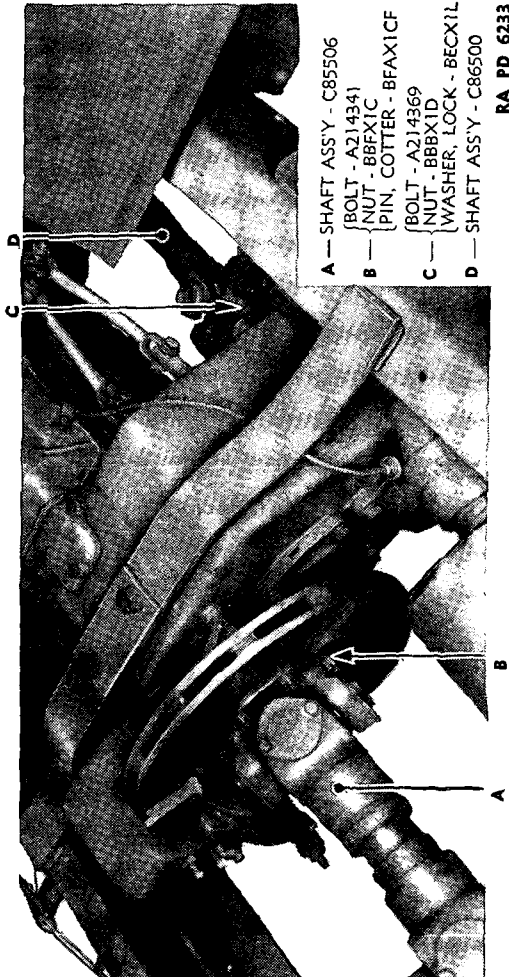

FIGURE 70.—Propeller shafts, installed.
(3) Replace with new seals.
27. Removal of assembly (fig. 70).—*a. Front axle propeller shaft.*—Tools: 5/8-inch open end wrench, 5/8-inch socket wrench. Re-